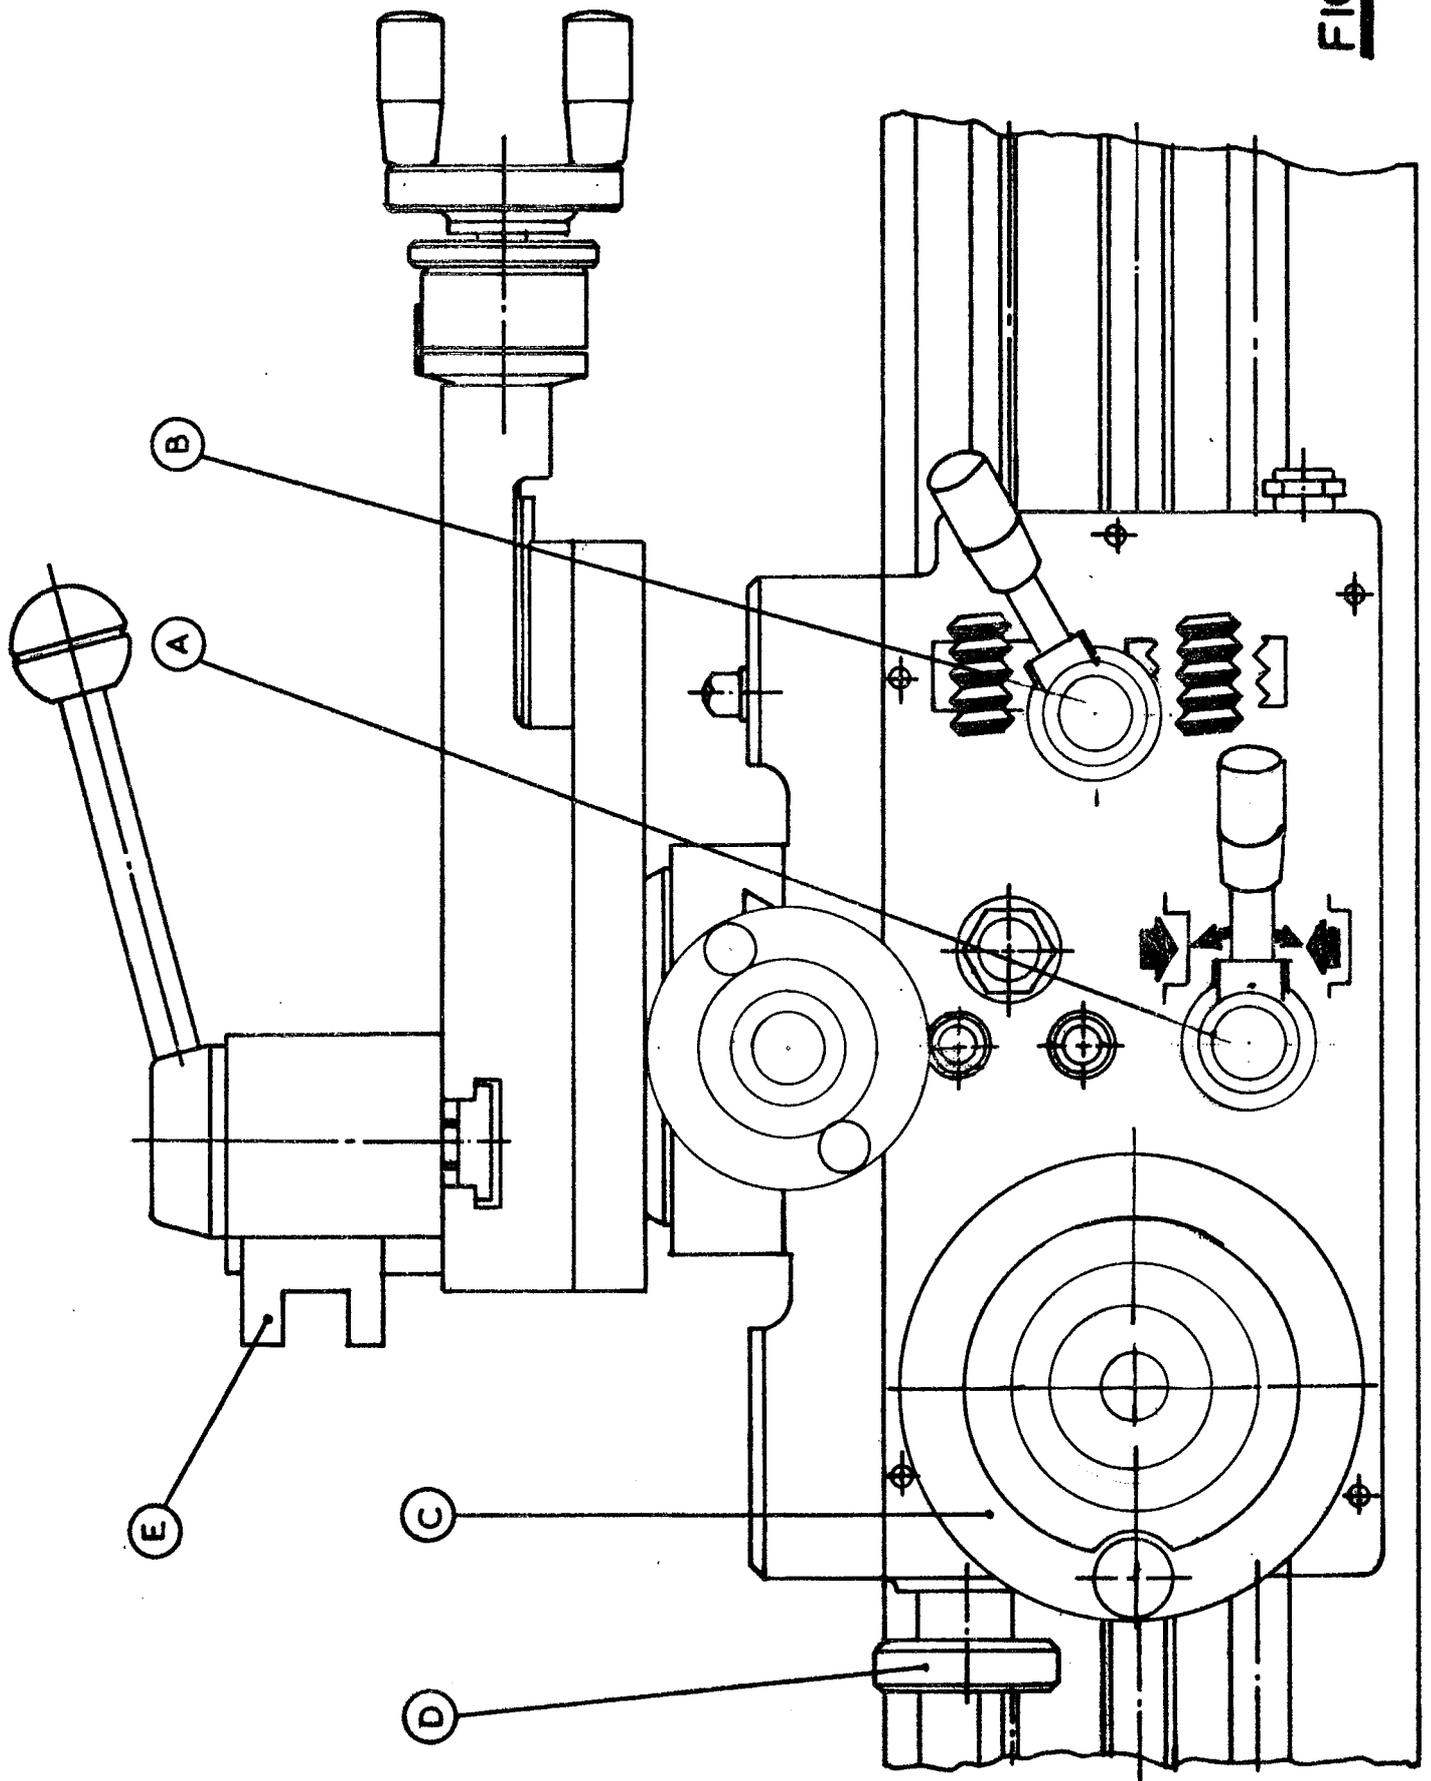

FIG 7.
The top slide can be swung to any angle for short taper turning operations by hand. There are three types of toolpost available- the two-way is standard to the 280VS lathe, a four-way and Quick Change toolpost (E). Fig.7 is also available for repetitive work.
Select feed from the chart on the gearbox and set the levers to the appropriate positions. The apron is then ready for engagement on the feedshaft. Clear the workpiece with the cutting tool and pull down the chip guard. Engage the feed by moving the lever (A) Fig. 7 in the centre of the apron. Move the lever up to traverse towards the chuck. To reverse the travel engage reversing bracket, (G). To stop the apron traversing move the lever to a horizontal position.